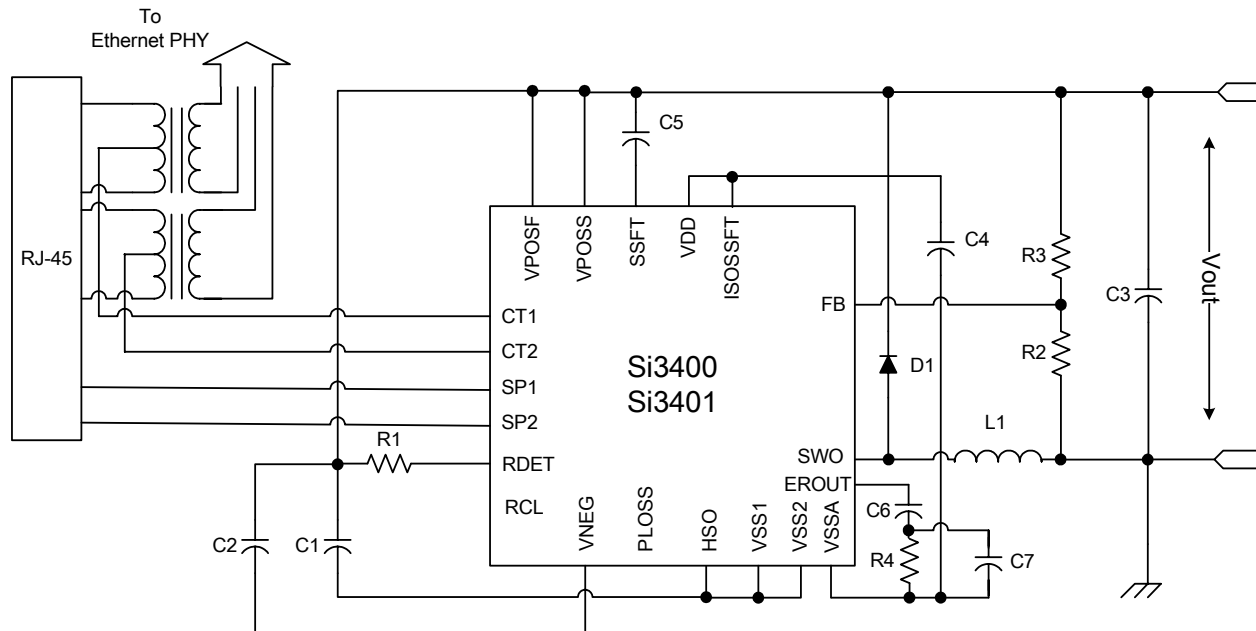
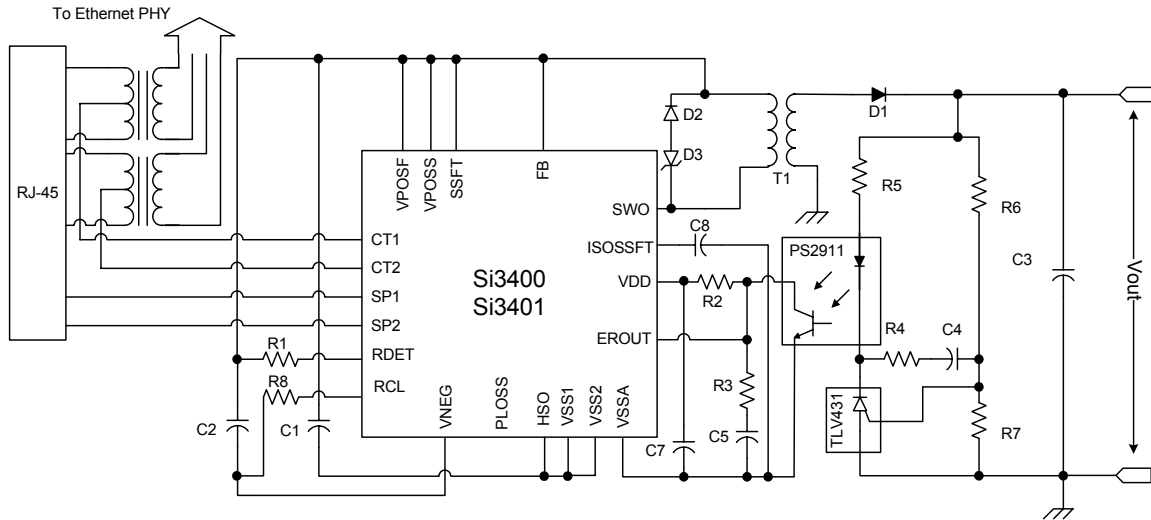

Figure 1. Schematic—Class 0 with Non-Isolated 5 V Output*
Figure 2. Schematic—Class 1 with Isolated 5.0 V Output*
6. Applies to non-isolated applications only (VOUT on schematic in Figure 1).
The application determines the converter topology. An isolated application will require a flyback transformer-based switching topology while a non-isolated application can use an inductor-based buck converter topology. In the isolated case, dc isolation is achieved through a transformer in the forward path and a voltage reference plus opto-isolator in the feedback path. The application circuit shown in Figure 2 is an example of such a topology. The non-isolated application in Figure 1 makes use of a single inductor as the energy conversion element, and the feedback signal is directly supplied into the internal error amplifier. As can be seen from the application circuits, the isolated topology has an increased number of components, thus increasing the bill of materials (BOM) and system footprint.